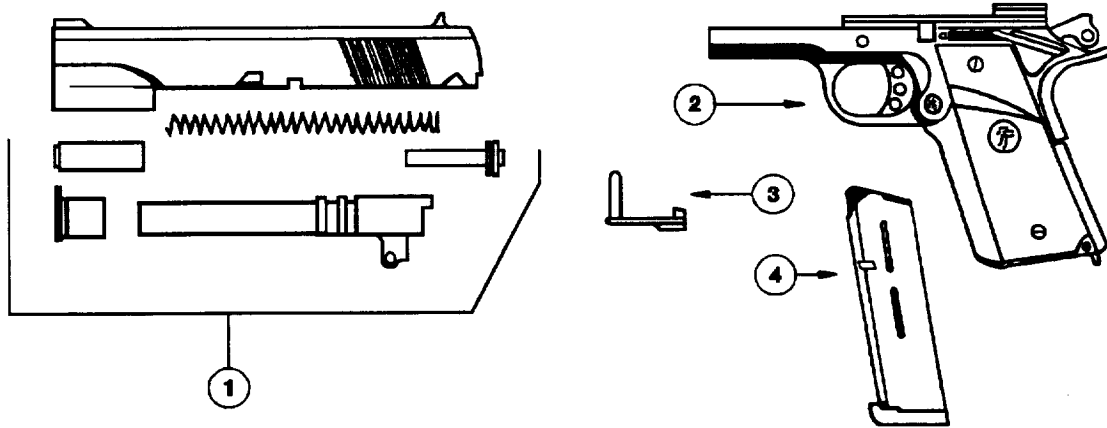

Figure 3-3. Field Stripping The Weapon
3-2. FIELD STRIPPING THE WEAPON. The weapon may be field stripped into four major groups, Figure 3-3, to clean, inspect, and/or repair. They are: Slide Assembly (1), Receiver Assembly (2), Slide Stop (3), and Magazine Assembly (4). Procedures for field stripping the weapon are outlined in TM 00526A-10/1, Operator's Manual, and are summarized below.